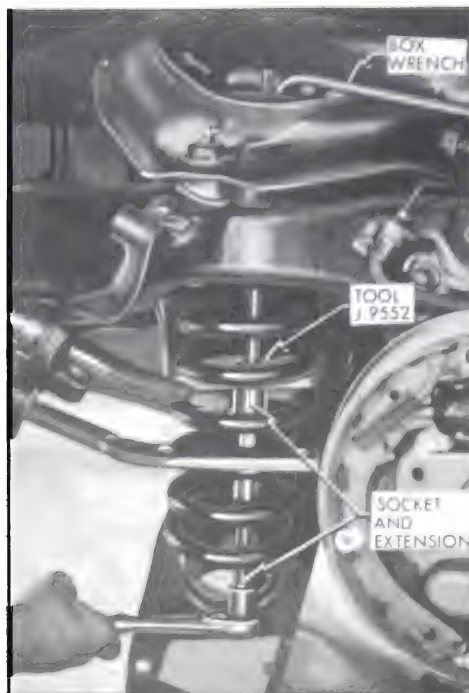

Figure 7-22—Compressing Front Spring With Tool J-9552
4. Place a box wrench on the upper nut of the tool to keep it from turning. Now tighten the bolt with a 7/8" socket and extension. See Figure 7-22.